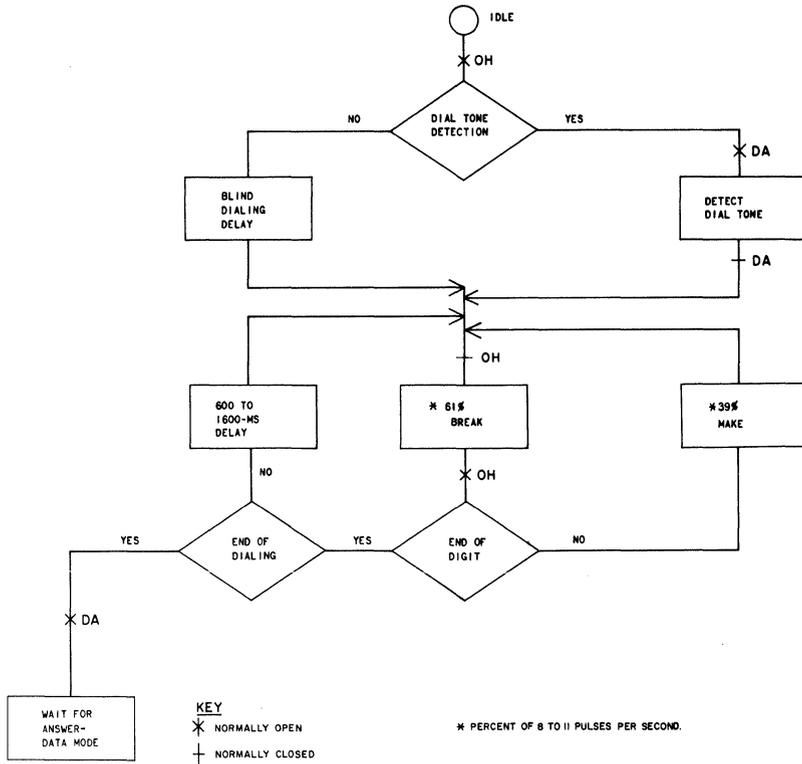

Fig. 4—Customer Automatic Calling Sequence Diagram—DC Dial Pulsing
**2.15 Call Origination:** Closing of the OH interface lead to -V by the customer, either for call origination or for transfer from a manually originated call, causes the OH relay to provide the off-hook function as previously described. Opening the OH lead causes the OH relay to release and open the dc path through the coupler. This sequence of operations permits the data terminal to generate dial pulses for call origination when dial tone is present. The pulsing sequence and timing requirements are as follows (see Fig. 4):